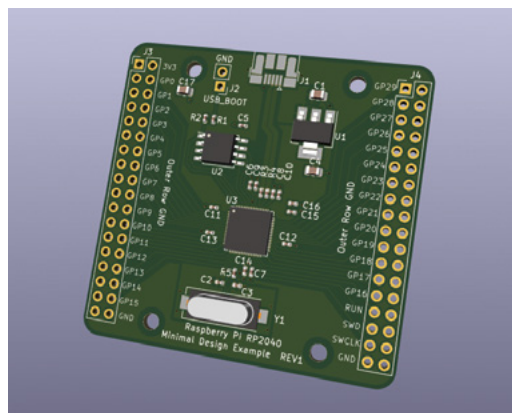

Figure 3 ♦
This document shows an example of a minimal RP2040-based board, a two-layer design, and then describes various aspects of the design and considerations. There is even a KiCad project file for the design. It's a great idea to download the project file and take a look around it (Figure 3). In this article, we are going to replicate this board design, but we will start from a blank project rather than use the one supplied.
Inside the potentiometer there is a resistive track with a slider that moves along it. As the slider moves towards terminal 1, the resistance between terminal 1 and terminal 2 decreases, and the resistance between terminal 2 and terminal 3 increases. A photo and schematic symbol are shown in **Figure 3** (overleaf).
► **Figure 3** Schematic diagram and photo of a potentiometer. This type has right-angle pins that can be inserted into a breadboard